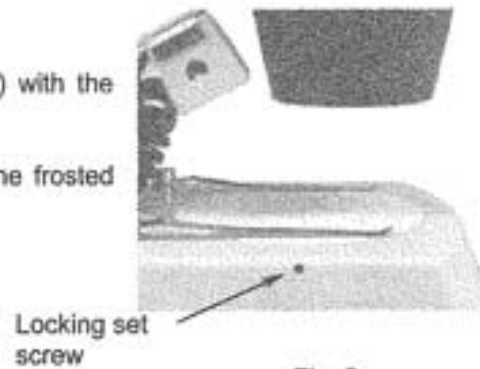

Fig. 2
- a. Loosen the locking set screw (Fig. 2) with the key provided, and remove stage (9).
- a. Loosen the stage fixing screw (Fig. 2) with the key provided, and remove the stage (9).
- a. Unscrew the illuminator protector tube (14), turning it anti-clockwise, and removing the tube from that of the lenses.